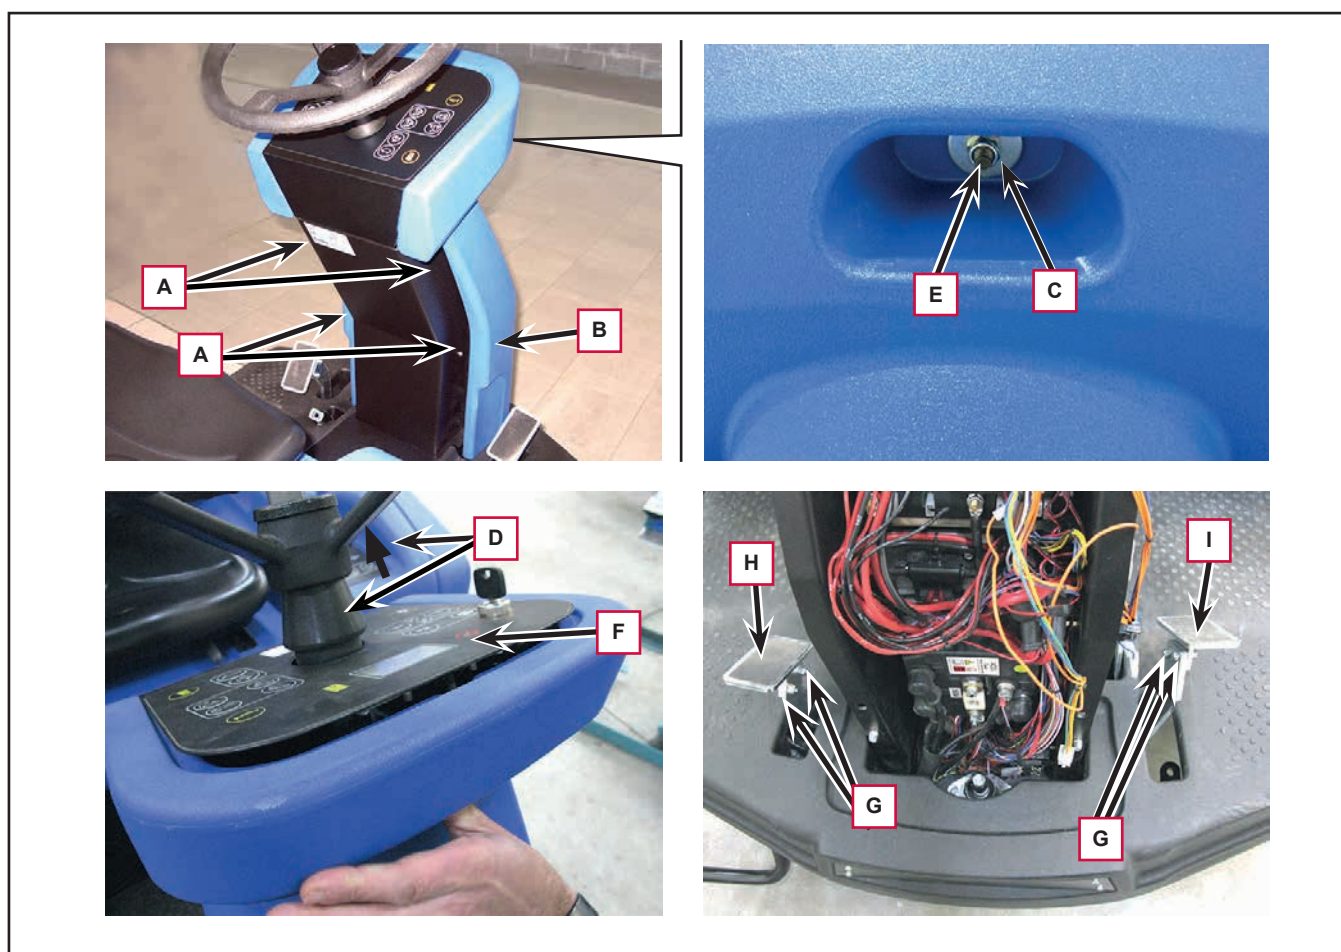

Figure 10
6. Unscrew the four screws (A, Figure 10) fastening the fairing (B).
7. Unscrew the nut (C) on the front.
8. Slide the sleeve (D) until it is flush on the steering wheel.
9. Press the stud (E), sliding it upwards (causing the Main Control Board (F) to lift slightly), then remove the fairing (B) by disengaging it from its seat and the stud (E).
10. Remove the screws (G) and remove the accelerator (H) and brake (I) pedals.